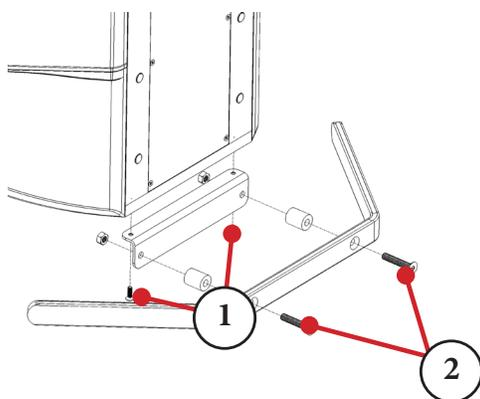

Figure 7.3 - Bracket Installation
1. Install the bracket to the bottom edge of the chassis in the desired location using the two M5 mounting screws. (Item 1, Figure 7.3)
2. Attach the rail to the bracket using the M8 screws, spacers and nuts. (Item 2, Figure 7.3).
Remove the cable management system components from the packaging. The package should include the parts seen in Figure 7.3.